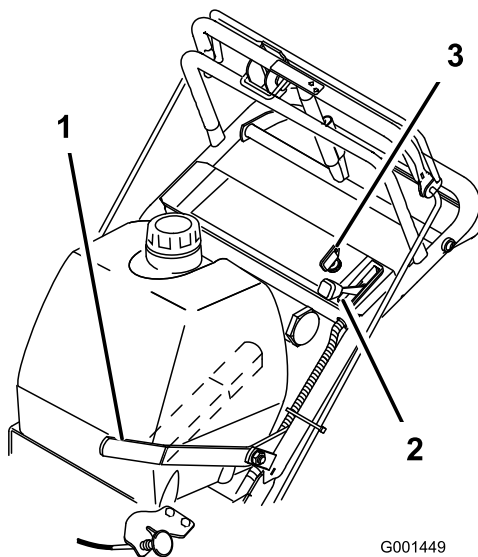

Figure 7
5. Turn the ignition key to the **run** position (Figure 7).
8. Pull the choke knob if the engine is cold (Figure 7).
1. Move the throttle lever to the **slow** position (Figure 7).
3. Turn the ignition key to **off** (Figure 7).